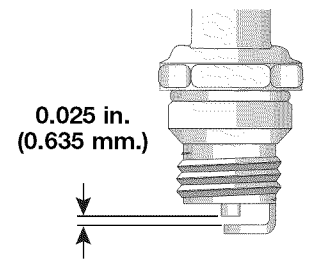

Fig. 25
4. Replace cracked, fouled or dirty spark plug. Set the air gap at 0.025 in. (0.635 mm) using a feeler gauge (Fig. 25).